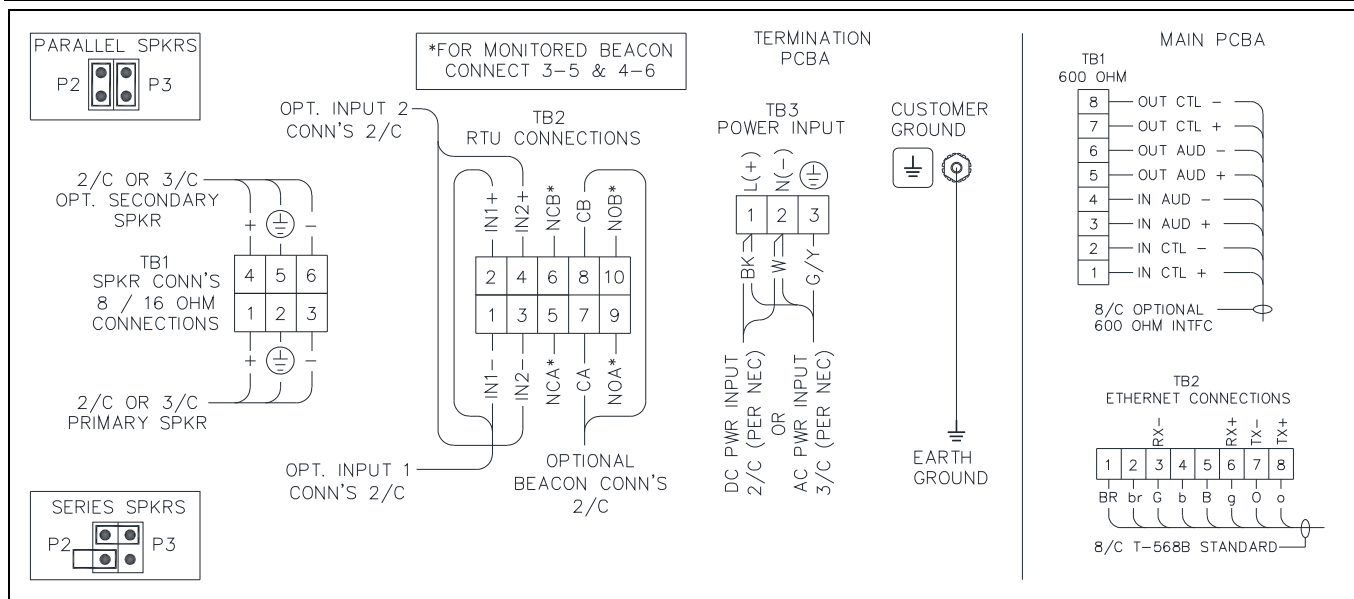

Figure 3. HUBBCOM Connection Diagrams
The HUBBCOM station provides terminal blocks on the termination PCBA, located in the rear enclosure, for field wiring the power, speaker, and RTU connections. The main PCBA, mounted to the back of the front panel, provides pluggable terminal blocks for the 600-ohm audio and Ethernet network connections (see Figure 3).
2. Secure it to the ground terminal located in the lower right corner at the back of the rear enclosure (see Figure 3).
5. Configure the speaker jumpers; P2 and P3, for the impedance of the connected speakers (see Figure 3).